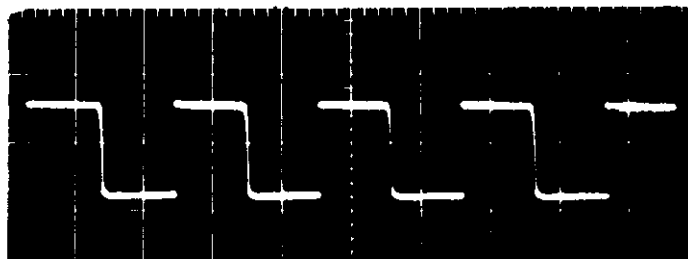

FIGURE 14. Symmetrical Square Wave with Potentiometer R159 Adjusted. Vertical sensitivity is 1 volt/cm; horizontal sweep is 5 milliseconds/cm.
b. Check the current wave form at the CURRENT Receptacle, J102. This should be a 94-cps square wave with about 1.3-volt amplitude (See Figure 14). Use the 3-ohm range to avoid oscilloscope loading. If the wave form is not correct, check the generator circuit stage-by-stage. Refer to the Voltage Chart, 12256C, to check the four transistors.
c. Check the square wave symmetry on the Oscilloscope. The wave should be approximately 1.3 volts peak-to-peak. Adjust potentiometer R159, if necessary, so the wave form resembles that shown in Figure 14.